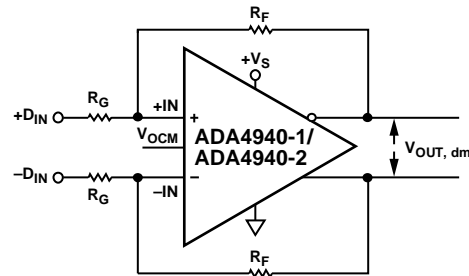

Figure 64. ADA4940-1/ADA4940-2 Configured for Balanced (Differential) Inputs
**Table 15. Differential Ground-Referenced Input, DC-Coupled,  $R_L = 1\text{ k}\Omega$  (See Figure 64)**
The effective input impedance of a circuit depends on whether the amplifier is being driven by a single-ended or differential signal source. For balanced differential input signals, as shown in Figure 64, the input impedance ( $R_{IN, dm}$ ) between the inputs (+ $D_{IN}$  and - $D_{IN}$ ) is simply  $R_{IN, dm} = 2 \times R_G$ .